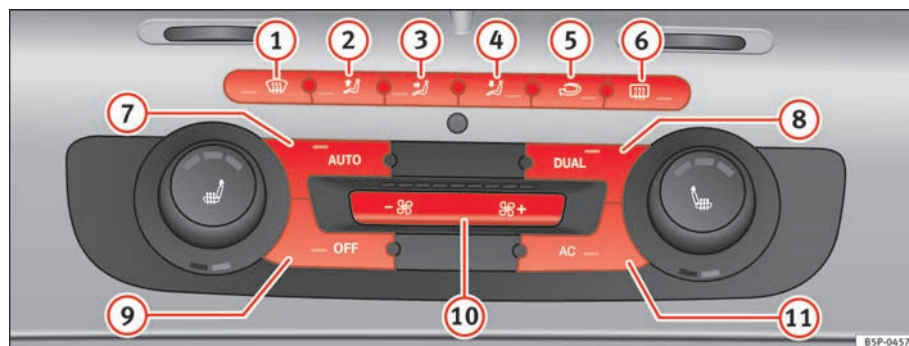

Fig. 111 On the dash panel: 2C Climatronic controls
- Turn the temperature control knobs ⇒ fig. 111 9 or 11 in order to adjust the temperature on the left hand side or the right hand side respectively.
- Press the  ⇒ page 148, fig. 111 button. “AUTO High” is shown on the radio display (high fan speed).
- Press the  button again ⇒ page 148, fig. 111. “AUTO Low” is shown on the radio display (low fan speed).